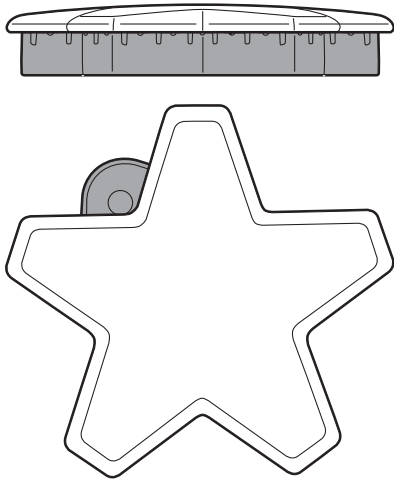
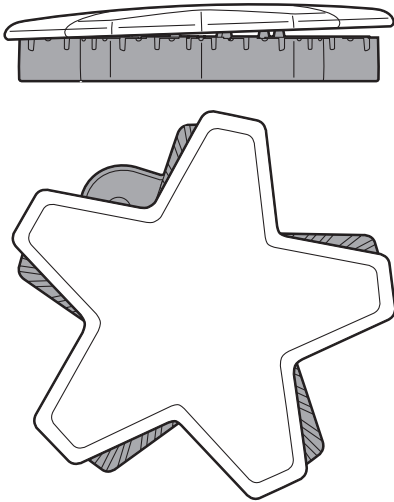

Figure 12: Correct Burner Cap Placement
Figure 13: Incorrect Burner Cap Placement
- Check each burner to make sure there is no gap between the burner cap and burner base. See *Figure 12* and *Figure 13* for examples of correct and incorrect placements of the burner cap.
- You may gently try to move the burner caps from side to side to check if the caps are properly placed on the burner bases. When properly placed, each burner cap will rest flat on top of its burner base, and completely cover the star-shape of the burner base when viewed from the top as shown in *Figure 12*.
Each STAR[®] burner has its own electronic igniter that sparks when the burner is turned on. Each burner should light in 4 seconds or less. If a burner does not light, check to see that the burner cap is positioned correctly on the base (see *Figure 12* and *Figure 13*).